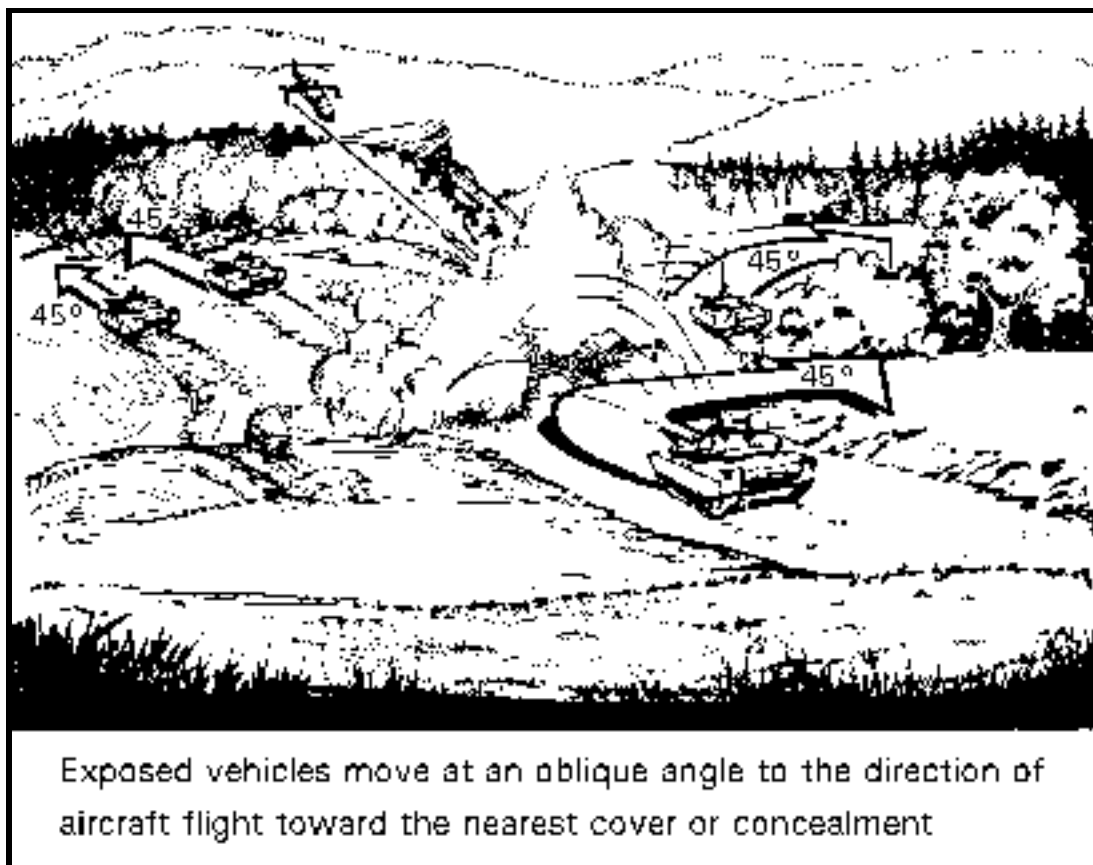

Figure 3-19. Evading enemy aircraft.
Step 2. Tanks create a nonlinear target by moving as fast as possible at a 45-degree angle away from the path of flight and toward attacking aircraft (see Figure 3-19, page 3-42). The platoon maintains an interval of at least 100 meters between tanks, forcing aircraft to make several passes to engage the entire platoon.